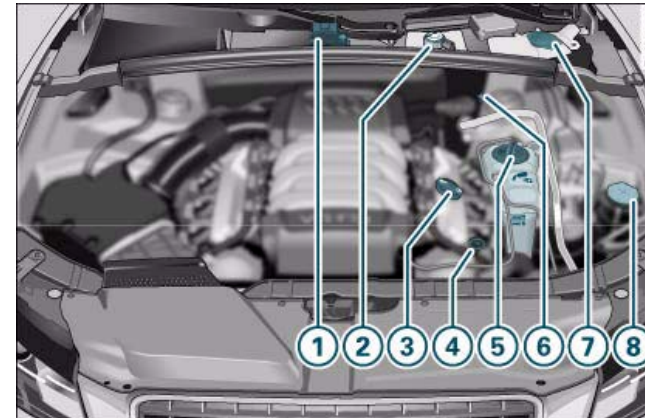

Fig. 252 Typical locations of fluid containers, engine oil dipstick and engine oil filler cap
① Jump-start terminal (+) under a cover	265, 294
② Brake fluid reservoir (☺)	262
③ Engine oil filler cap (🔑)	259
④ Engine oil dipstick* (orange)	258
⑤ Radiator expansion tank (🌊)	261
⑥ Jump-start terminal (-) with hexagon head	265, 294
⑦ Windscreen washer container (💧)	267
⑧ Hydraulic fluid reservoir for power steering	225 ▶
The positions of the engine oil filler cap and the engine oil dipstick ⇒ *page 256*, fig. 252 (items ③ and ④) may be different on some engine versions. ■